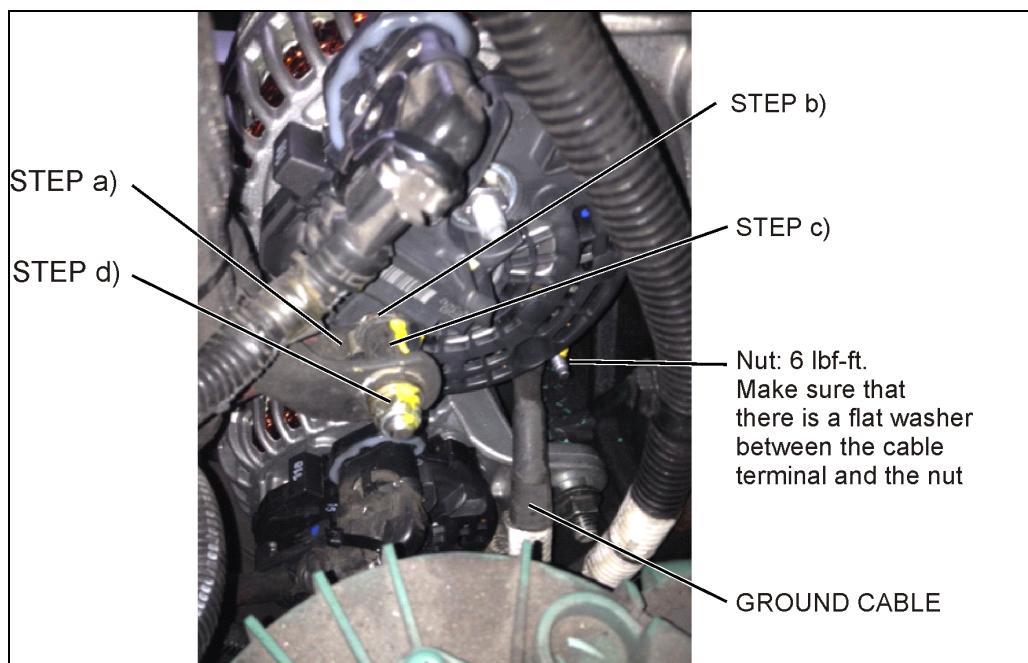

FIGURE 8 : STEP 12 a, b, c, d
- Install jumper cable (a.k.a. positive cable) onto **B1+** stud terminal on upper alternator (figure 8).
- Place one new flat washer #5001341 against the jumper cable ring terminal (figure 8).
- Screw and tighten the adapter stud #564590 (torque: 10 lbf-ft) (figure 8) prior installing main battery cable (power cable).
- Fit the main battery cable onto adaptor stud, place one new flat washer #5001341 against the battery cable terminal and screw a new nut #5001983 (nut torque: 10 lbf-ft) (figure 8).
13. Fit the ground cable onto the alternator ground stud, place one new flat washer #502573 against the ground cable terminal and screw a new nut #5001182 (nut torque: 6 lbf-ft) (figure 8).